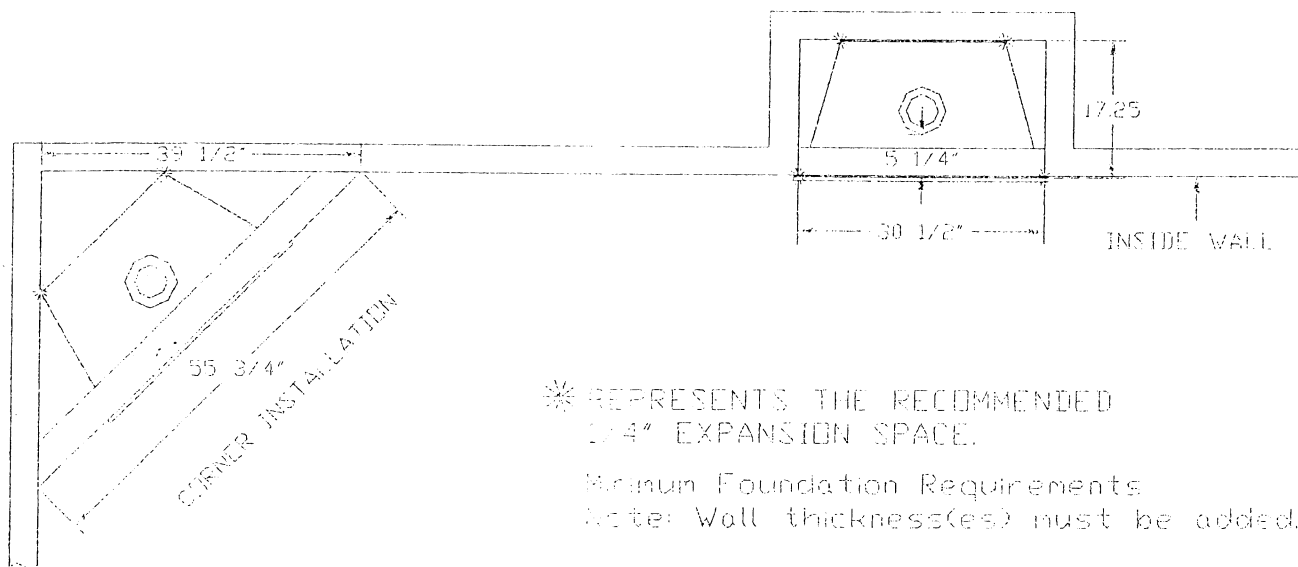

FIGURE 2
A) POSITION THE UNIT. See Figure 2.
2. The unit may be installed on either the outside or inside of an exterior wall. See Figure 2 for various installation options.
3. Minimum clearance to combustibles, see Figure 2: